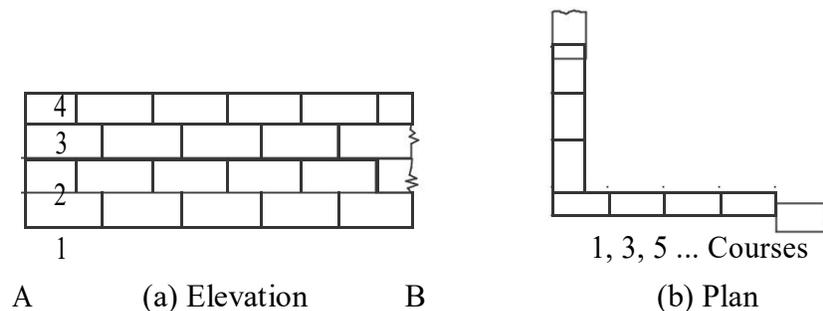

Fig. 2.6.1 Stretcher
**Stretcher Bond:** A stretcher is the longer face of the brick as seen in the elevation. In the brick of size 190 mm × 90 mm × 90 mm, 190 mm × 90 mm face is the stretcher. In stretcher bond masonry all the bricks are arranged in stretcher courses as shown in Fig. 2.6.1 However care should be taken to break vertical joints. This type of construction is useful for the construction half brick thick partition wall.